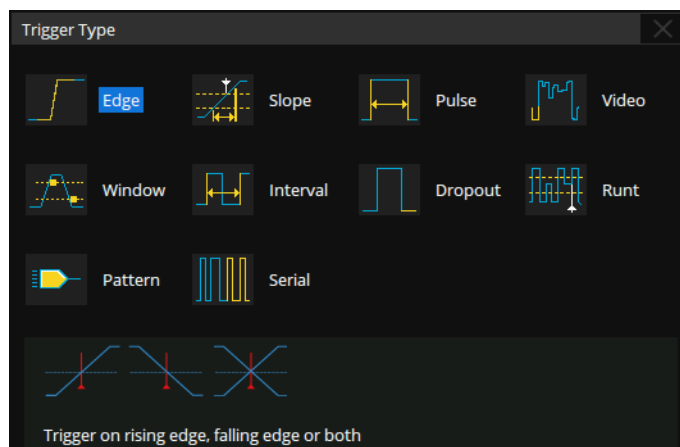

Figure 9.3 Trigger Types
- The **Trigger Type** window shown in figure 9.3 will appear.
3. The window shown in figure 9.3 will appear.